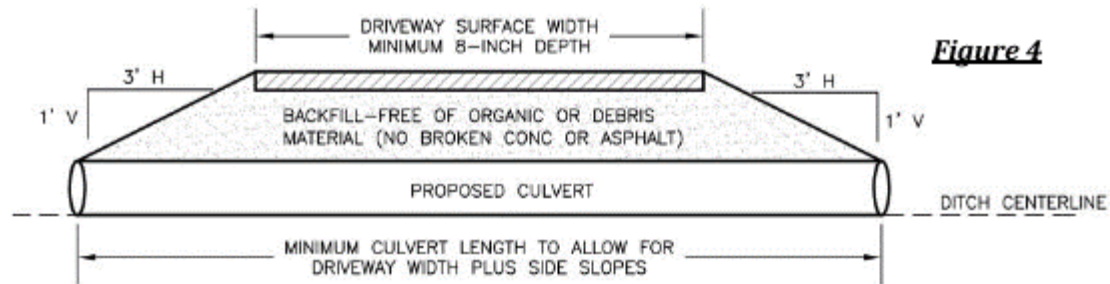

Figure 4
- b. A 3-ft horizontal to 1-ft vertical slope is required from the driveway edge down to the top of culvert as shown in **Figure 4**.